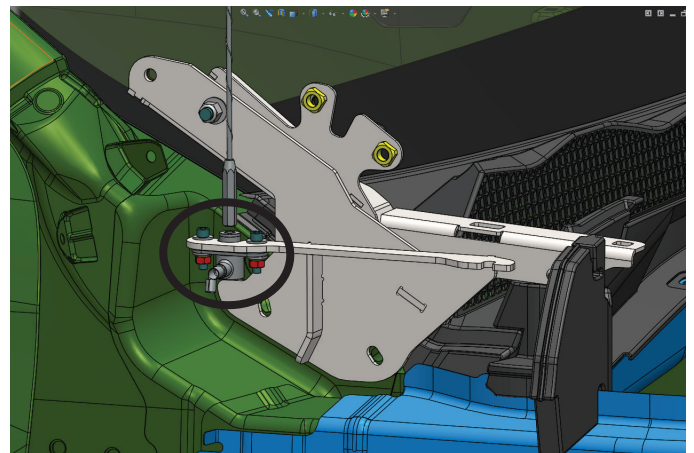

Figure 7
4. Using a 7/16" wrench, install and fully tighten the antenna to the passenger side bracket using the 1/4"-20 yellow zinc hex cap screw, yellow zinc flat washer, yellow zinc flat washer, yellow zinc lock washer and yellow zinc hex nut bolt stack provided in the hardware kit. (Figure 7)